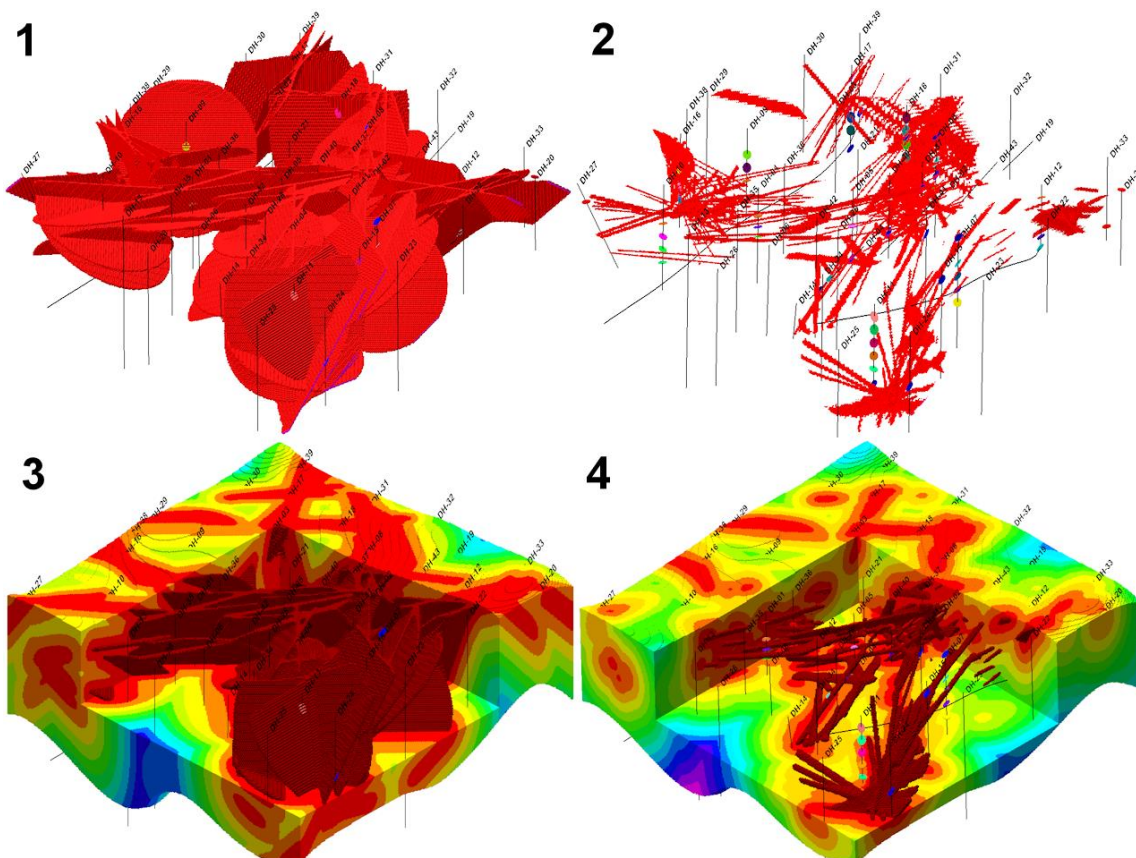

Figure 19
- As shown within Figure 19, the *Fractures* (1), *Fracture Intersections* (2), *Distance to Closest Fracture* (3), and *Distance to Closest Fracture Intersection* (4) models may be used for a variety of purposes such as predicting karstification associated with fractured carbonates.